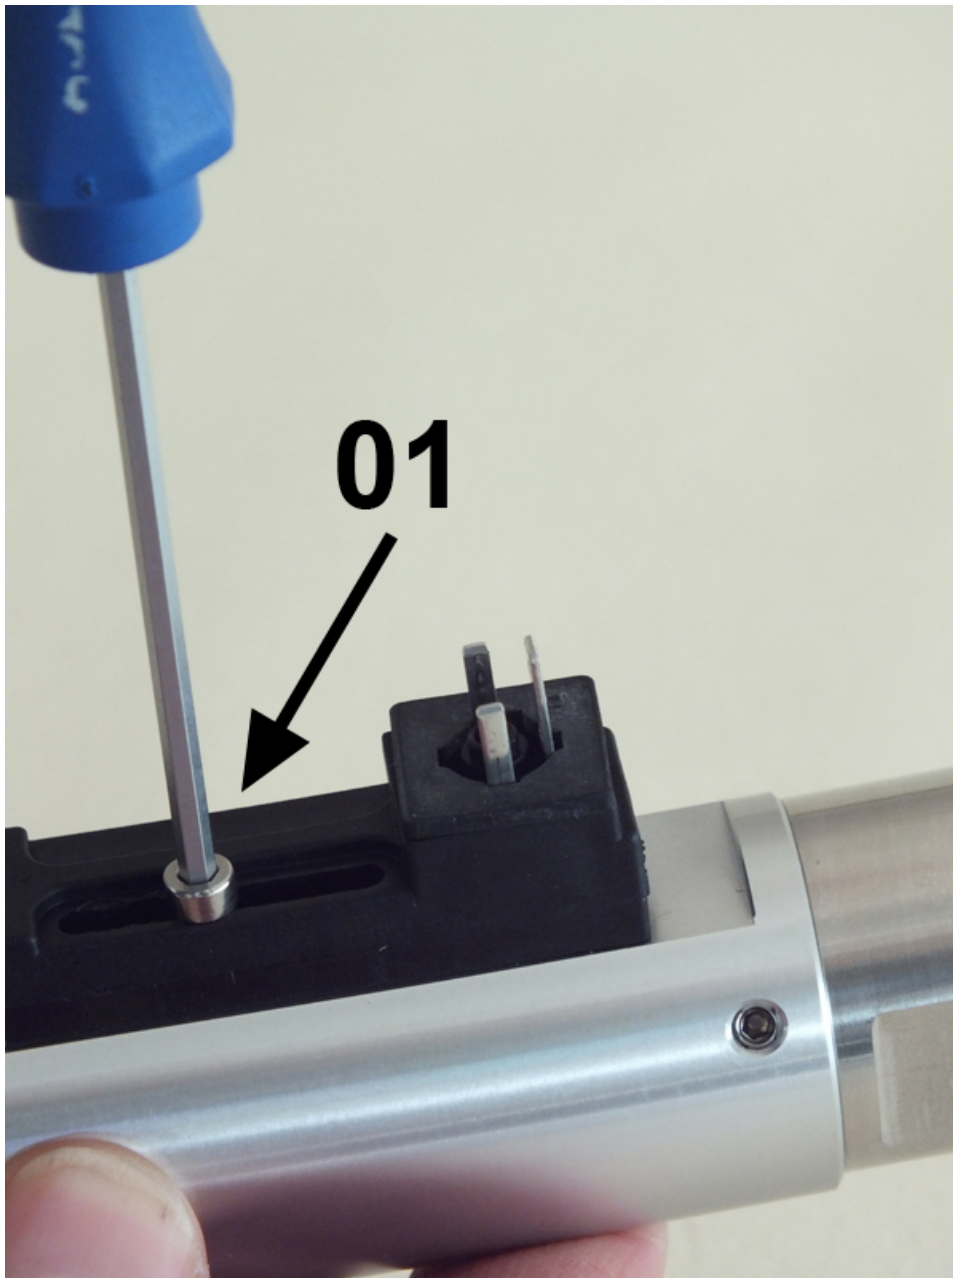

Fig. 55: Loosen set screw
- 3.** ➤ Using a hex screwdriver (*Fig. 55/01*) remove the set screw of the switch contact
- 7.** ➤ Insert set screw (*Fig. 55/01*) and tighten it slightly so that the switch contact can still move easily
- 9.** ➤ Retighten the set screw (*Fig. 55/01*) observing the proper tightening torque (➔ *Chapter 11.1 "Tightening torque" on page 85*).